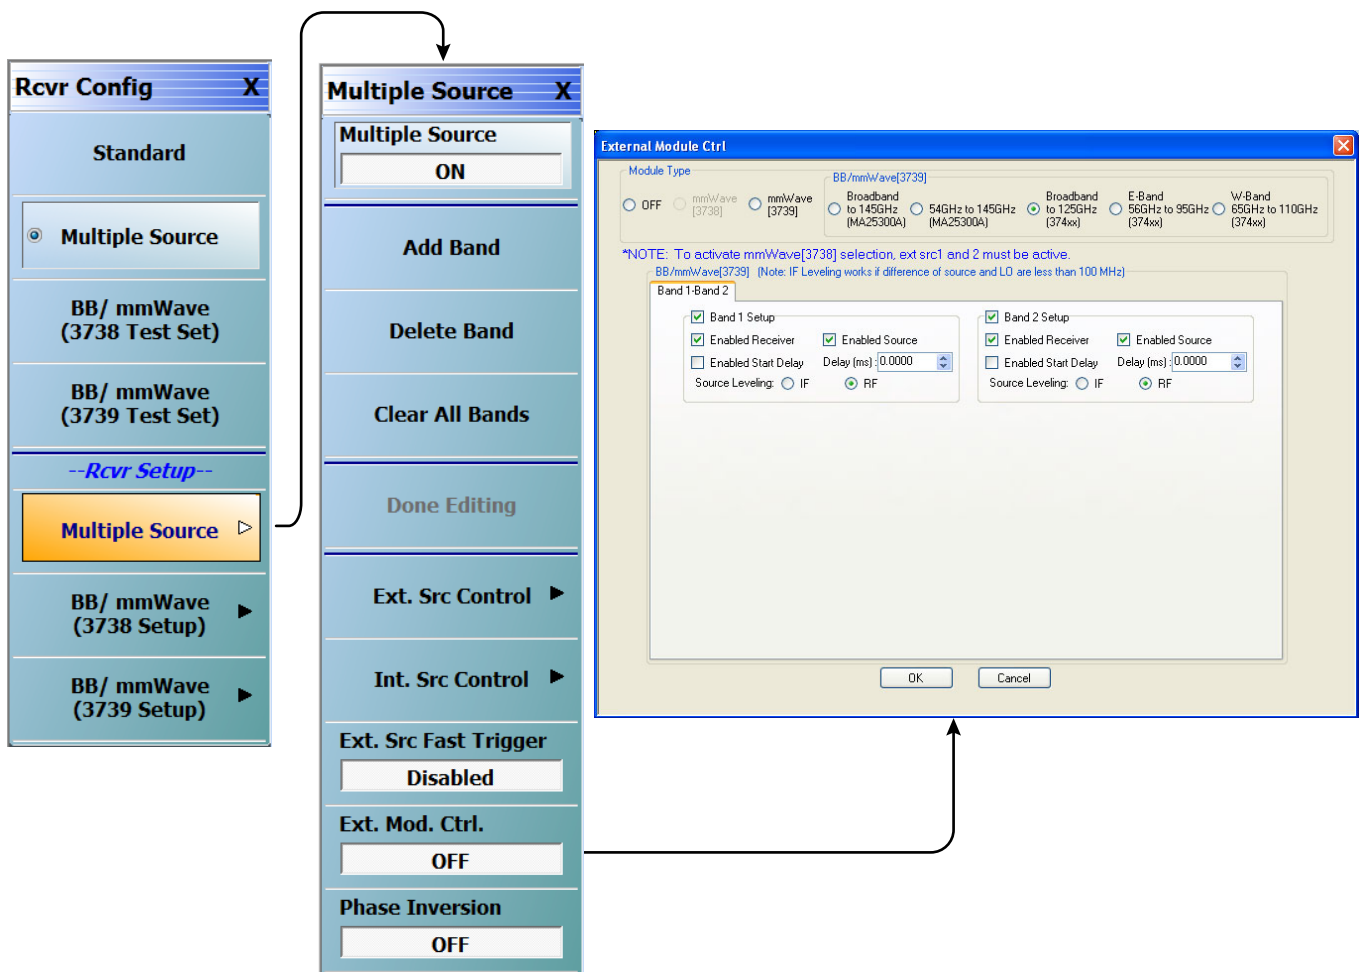

Figure 3-12. Receiver Configuration for Multiple Source (MS464xB Menu)
3. Navigate: Main | Application | Rcvr Config | (See Figure 3-12).